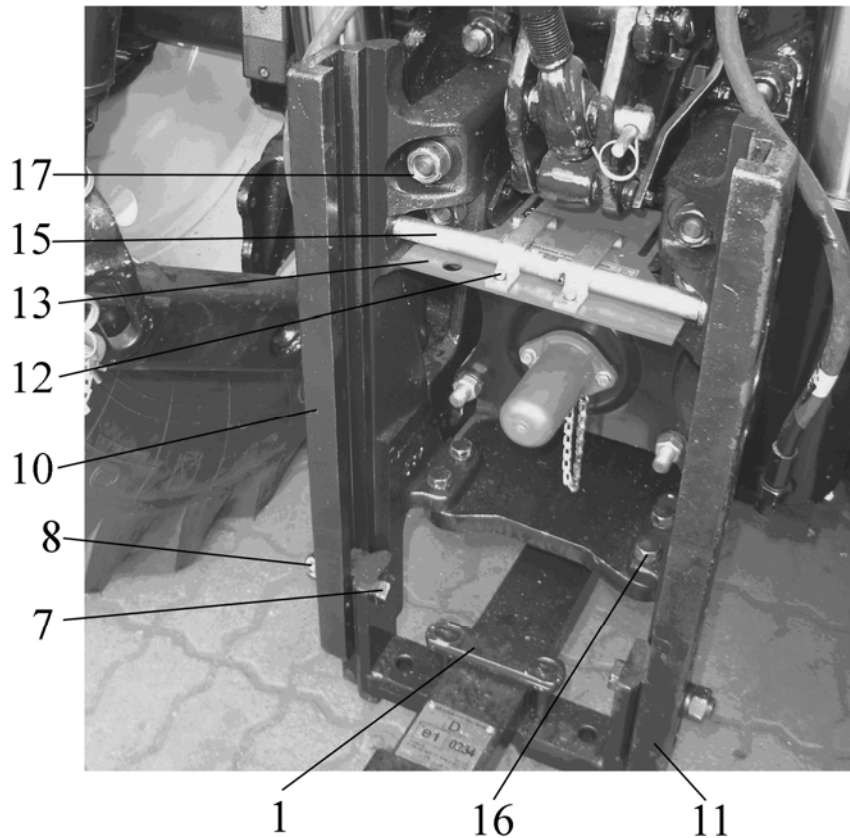
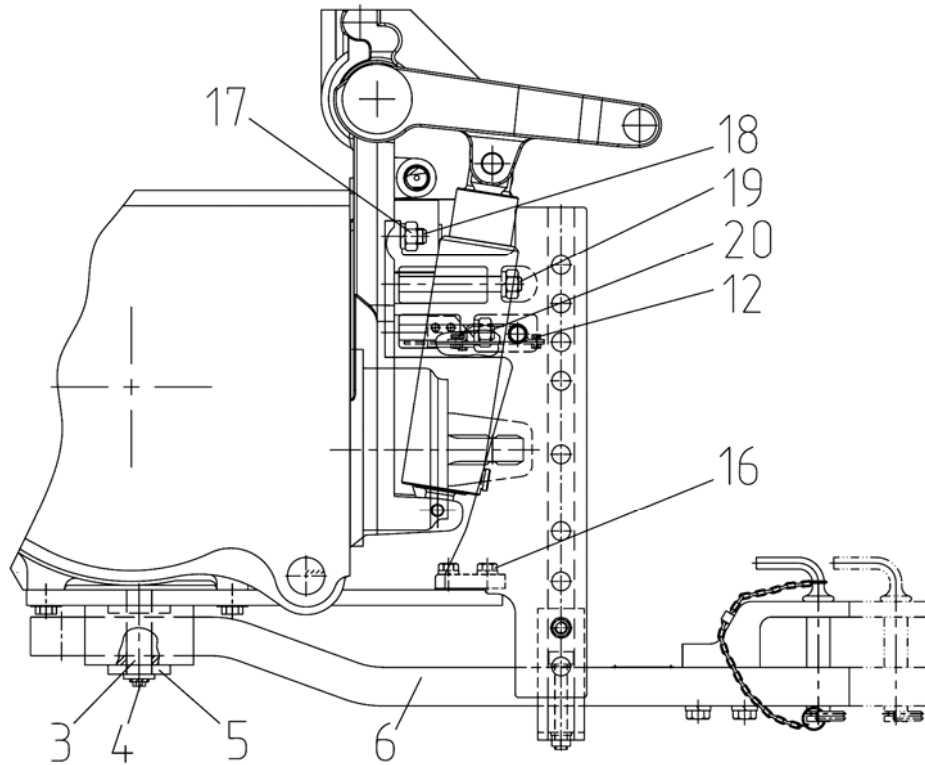
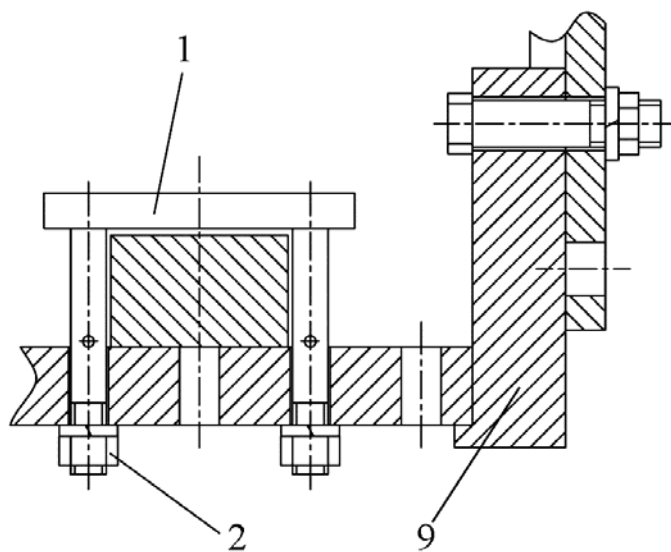

Figure 9.13
Figure 9.14
Figure 9.15
Disassembly of TDD is made in the following sequence, see (figures 9.13, 9.14, 9.15, 9.16):
- a) remove clip 1 (figures 9.13, 9.15), having first unscrewed nuts 2 (Figure 9.15);
- b) pull out pin, having first unscrewed bolts (4) and removed plate 5 (Figure 9.14);
- c) remove tie-rod 6 (Figure 9.14);
- d) remove pins (7), having unscrewed nuts 8 (Figure 9.13);
- e) dismount cross-piece 9 (Figure 9.15) from guides 10, 11 (figures 9.13, 9.16);
- f) unscrew bolts 12 (Figure 9.13) and remove guard 13
h) unscrew bolts 16 (figures 9.13, 9.14) and having unscrewed nuts 17 off pins 18, 19, 20 (Figure 9.14), remove guides 10, 11 (Figure 9.13).
- a) screw pins 18, 19 and 20 (Figure 9.14) with threaded part with tough thread in rear axle body – **for normal thread, as from the opposite side the flat is increased**